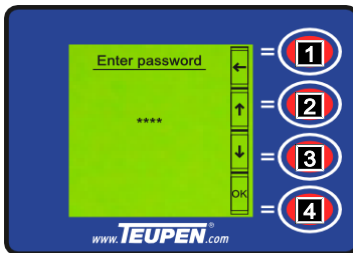

Fig. 88
1. Press the *[function key]* (Fig.88/4).
2. Select the desired digit with the *[function keys]* (Fig.88/2 and 3).
3. Use the *[function key]* (Fig.88/4) to confirm the selected digit.
5. Use the *[function key]* (Fig.88/1) to return to the main menu.